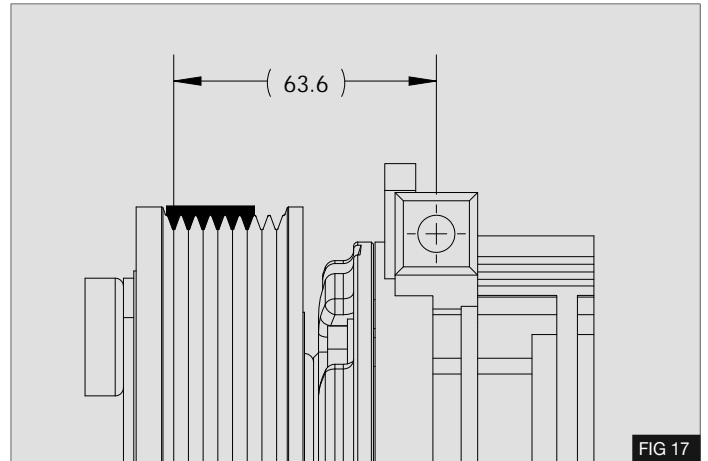

FIG 17
- Place the belt in the correct groove of the compressor clutch as shown opposite (Seltec / Que PV8) - Fig 17